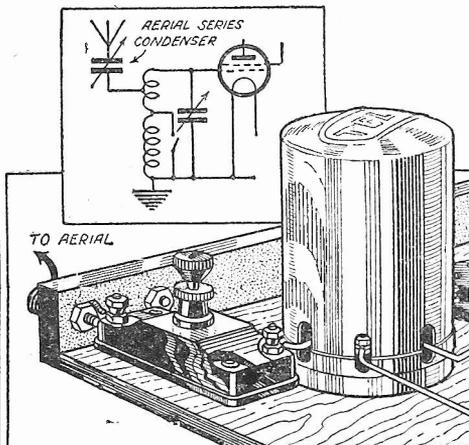

Fig. 1.—The series aerial condenser which is a valuable selectivity device.
Let us first deal with some elementary facts concerning the aerial circuit. We are all familiar with the use of a condenser connected in series with the aerial and used as a selectivity device as in Fig. 1. Now, variations in the capacity of this condenser not only affect the selectivity of the receiver, but also its sensitivity and its wavelength range. It is worth while remembering that a decrease in the capacity of this condenser means: (1) An increase in selectivity; (2) a decrease in sensitivity; (3) a lowering of the wavelength of the receiver. An increase in its capacity, or its removal from the circuit (aerial joined direct to coil) gives the opposite effect.